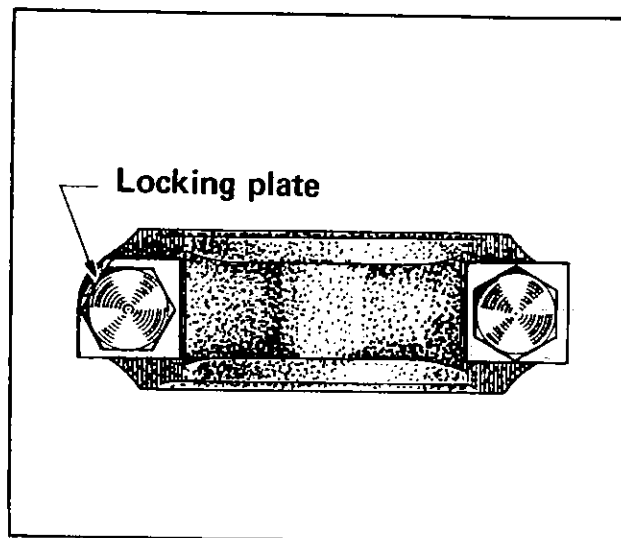

Fig. EM-73 Installation of piston assembly
- b. After tightening the bolt to the specified torque, bend the lock washer as shown in Fig. EM-73.